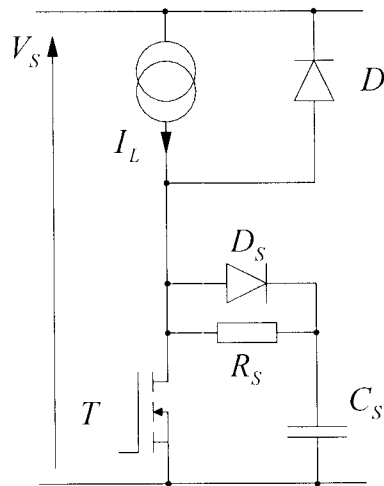

Figure 2
- (d) Figure 2 shows snubber circuit applied to a transistor switching an inductive load. The load has been approximated by a constant current. Other details of the circuit are: supply voltage, $V_S = 500$ V; snubber capacitor $C_S = 22$ nF; transistor current fall time, $t_{fi} = 500$ ns and transistor voltage rise time, $t_{rv} = 100$ ns.